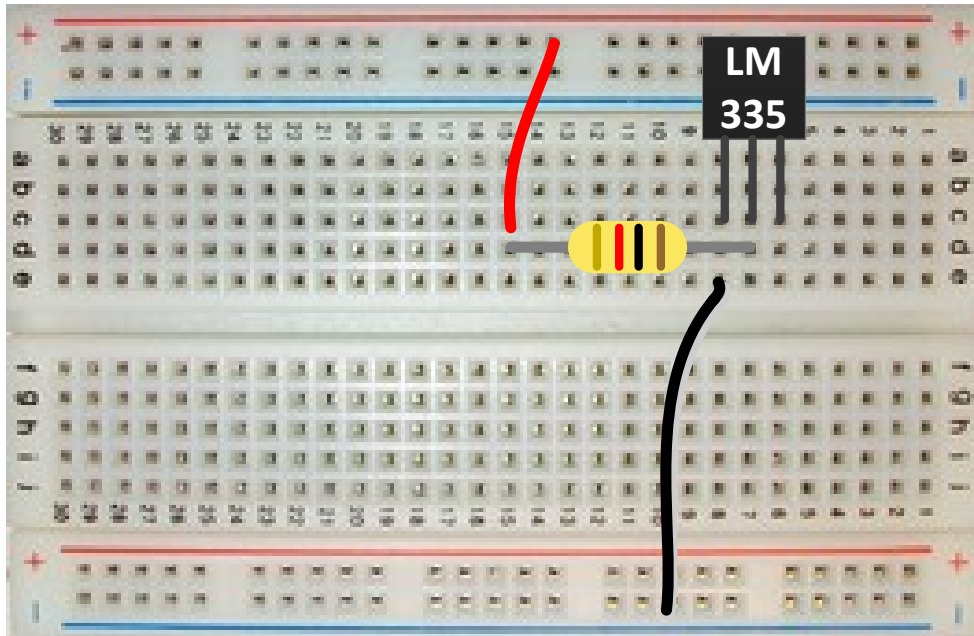

Figure 4: Wiring an LM335 temperature sensor.
2. Locate your LM335 temperature sensor and wire it up based on Figure 4. The resistor is 1 k Ω .